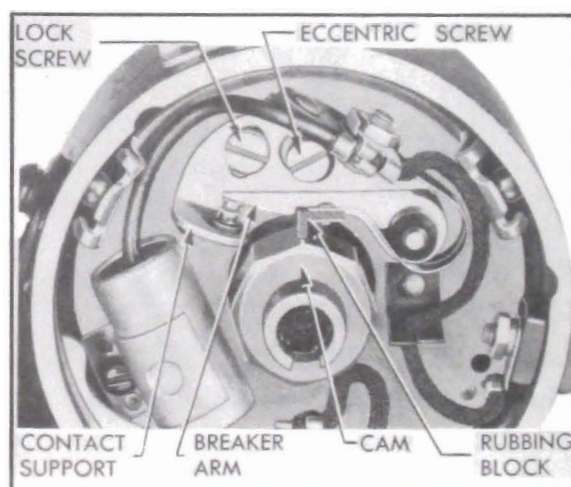

Figure 10-73—Contact Point Adjustment
3. If indicator reading is not within the limits of .0125" to .0175", slightly loosen contact support lock screw and turn eccentric screw to open or close point as required, then tighten support lock screw. See figure 10-73. Recheck point opening on same lobe of cam. NOTE: Since point opening decreases as rubbing block wears, always set new points as close to the high limit as possible.
Use a clean, flat feeler gauge .015" thick. With rubbing block on highest point of cam lobe adjust point opening (fig. 10-73) until feeler gauge goes between contact points with a very light drag. Use care to hold gauge exactly in line with opening to get an accurate measurement.